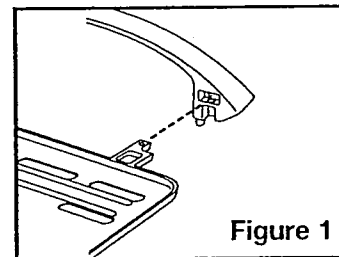

Figure 1
2. Push recesses in Handle over ends of Cooking Plate. See Figure 1. Carefully turn Cooking Plate and Handle upside down. Align hole in Handle with hole in Cooking Plate.